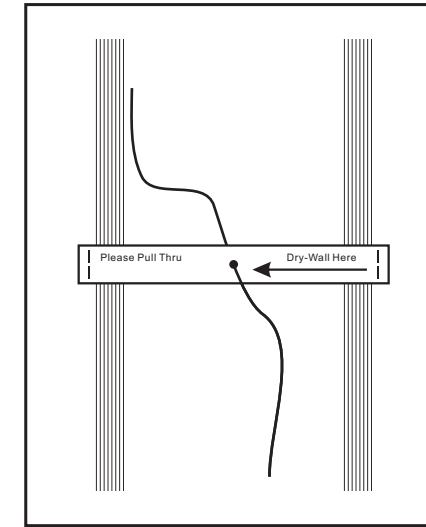

Figure 3
3.If pre-wiring without using the PYLEAUDIO Pre-Construction Speaker Brackets, leave 4 to 6 feet of wire at the speaker's intended location. Use a strip of cardboard stapled to the joints/studs with a hole through it as a wire place holder for the drywall installers if installation of the speakers is intended ( **see Figure 3**).